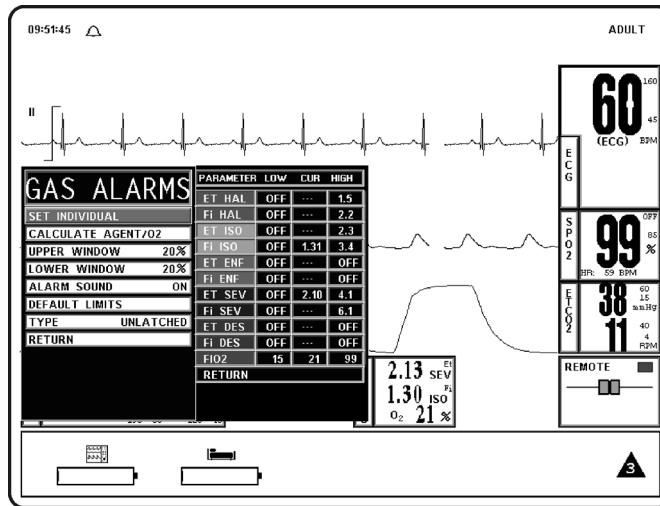

Figure 6-2. GAS ALARMS (Anesthetic Agents Alarm Limit) Menu
- i. **GAS ALARMS.** Selecting this menu option will bring up the GAS ALARMS (Anesthetic Agent Alarm Limits) Menu (See Figure 6-2). All the Alarm Limits associated with the Anesthetic Agent System are adjusted in this menu. The following is a description of the GAS ALARMS Menu: